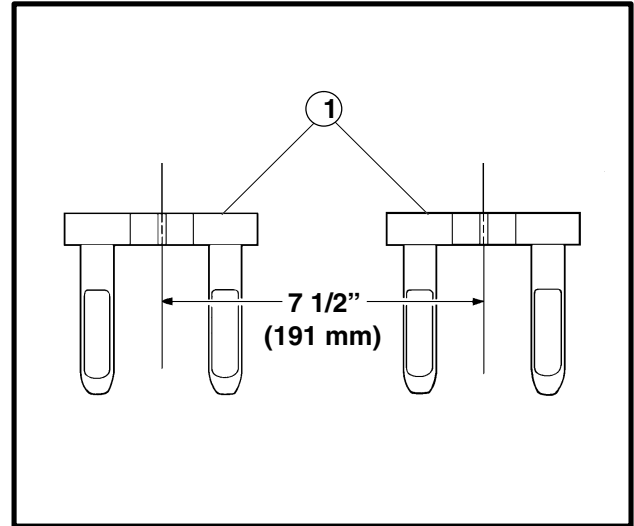

Figure 14
1. Measure the distance between the center of the tine holders by rotating the main drive pulley until two (2) of the four (4) tine holders are parallel with each other. Measure as shown in Figure 14.